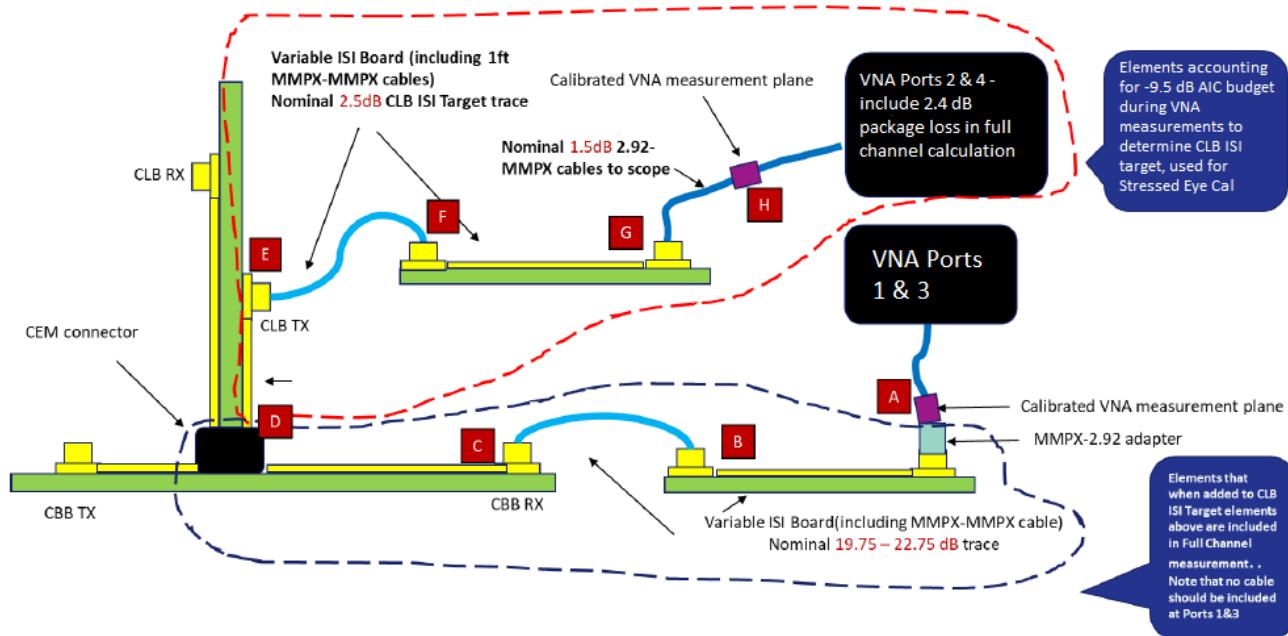
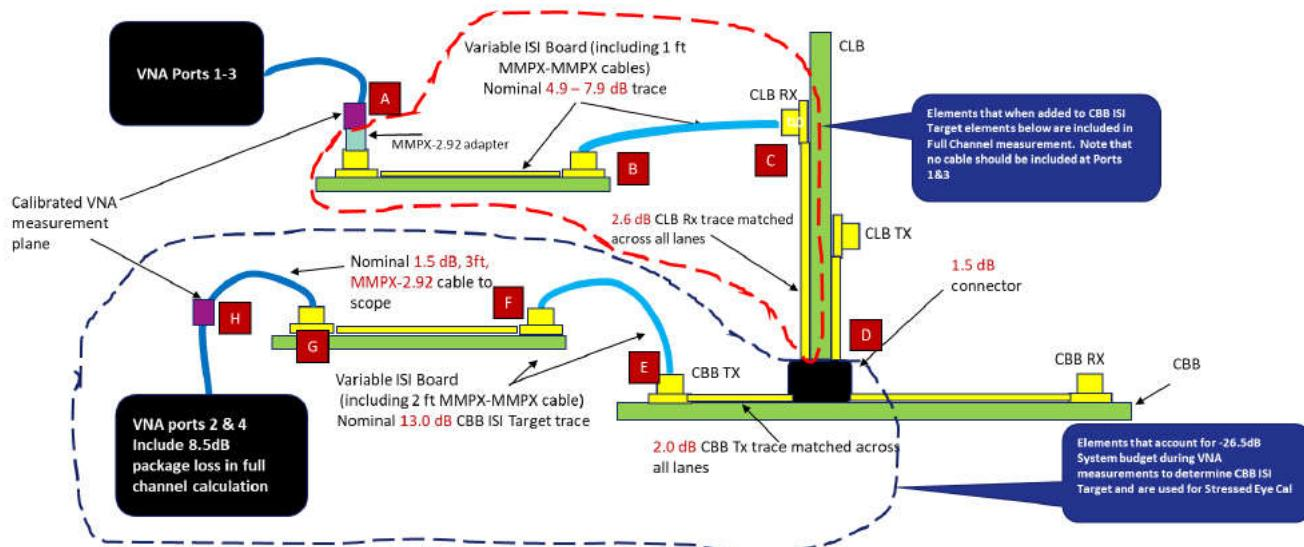

Figure 2-7. PCI-SIG AIC RX Calibration Specifications
Figure 2-8. PCI-SIG System RX Calibration Specifications
4. Insertion Loss Calibration is performed at TP2. Figure 2-7 and Figure 2-8 show loss targets for different elements within the signal path and CBB/CLB with ISI loss board setup.
8. Insertion loss decremented—from 36 dB—in 0.5 dB/step, DMI in 3 mV increments, SJ in 10 mUI increments, SJ in 10 mV increments, and device CTLE gain swept from 7 through 12 to achieve best Eye Height (EH) and Eye Width (EW).